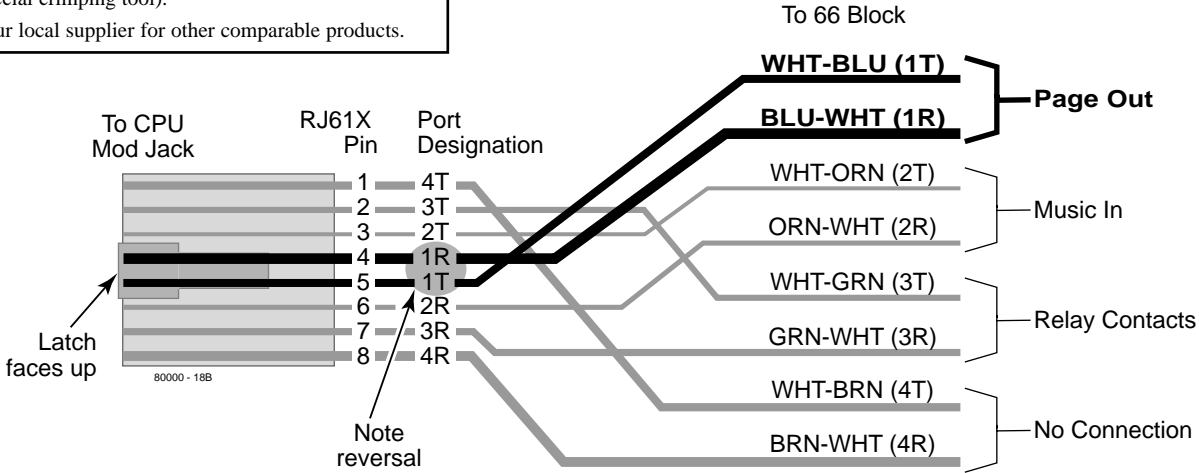

Figure 4-1 CONNECTING EXTERNAL PAGING
### Installing External Paging (Figure 4-1)
2. For the connector chosen, locate pins 1T and 1R (see Figure 4-1) and connect the music source.